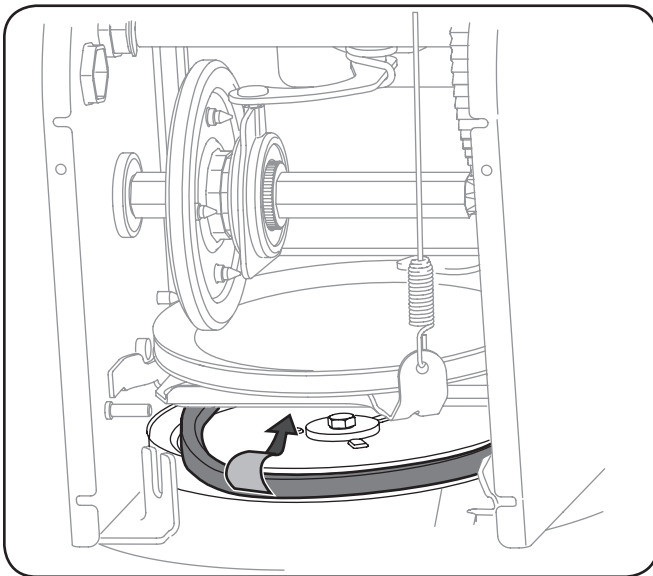

Figure 7-5
- Remove the belt from around the auger pulley, and slip the belt between the support bracket and the auger pulley. See Figure 7-5.